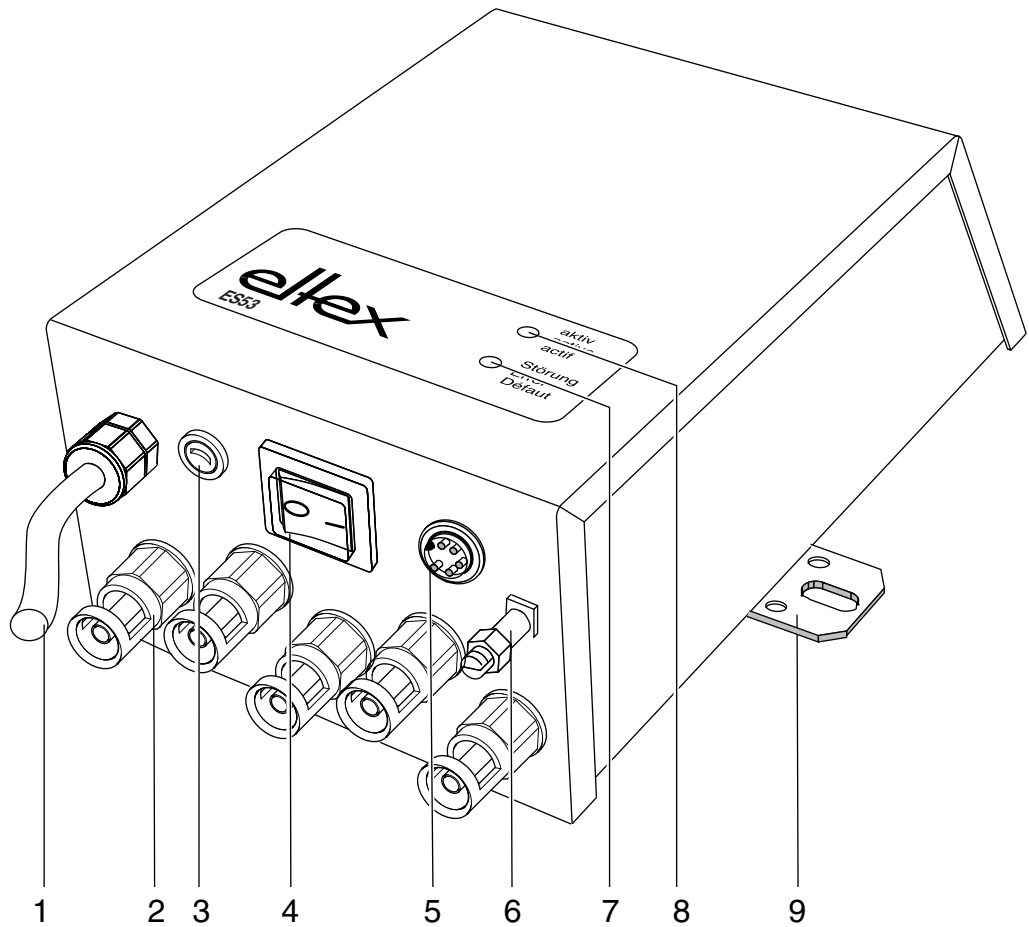

Fig. 1:
- Before starting the unit make sure that the appliance is permanently grounded via the grounding terminal (6, Fig. 1). The ground cable should have a minimum cross section of 1.5 mm² (see chapter 3.2 "Ground connection", page 11).
A permanent ground connection must be made via the grounding terminal (6, Fig. 1). The ground cable should have a minimum cross section of 1.5 mm².
Depending on the design of the power supply, connect the supply voltage via the power supply lead (1, Fig. 1) using an earthing pin plug (depending on device version); overvoltage category II.